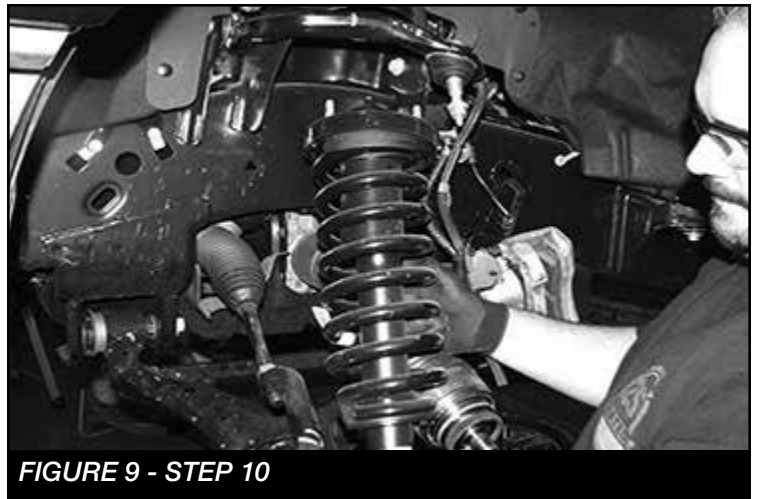

FIGURE 9 - STEP 10
10. Locate the three upper coilover nuts and remove. Save the hardware. Remove the shock assembly from the vehicle and mark "Driver" for assembly to install later with Fabtech shock extensions. **NOTE: If installing Dirt Logic coilovers the factory coilover and hardware will not be re-used. SEE FIGURE 9**